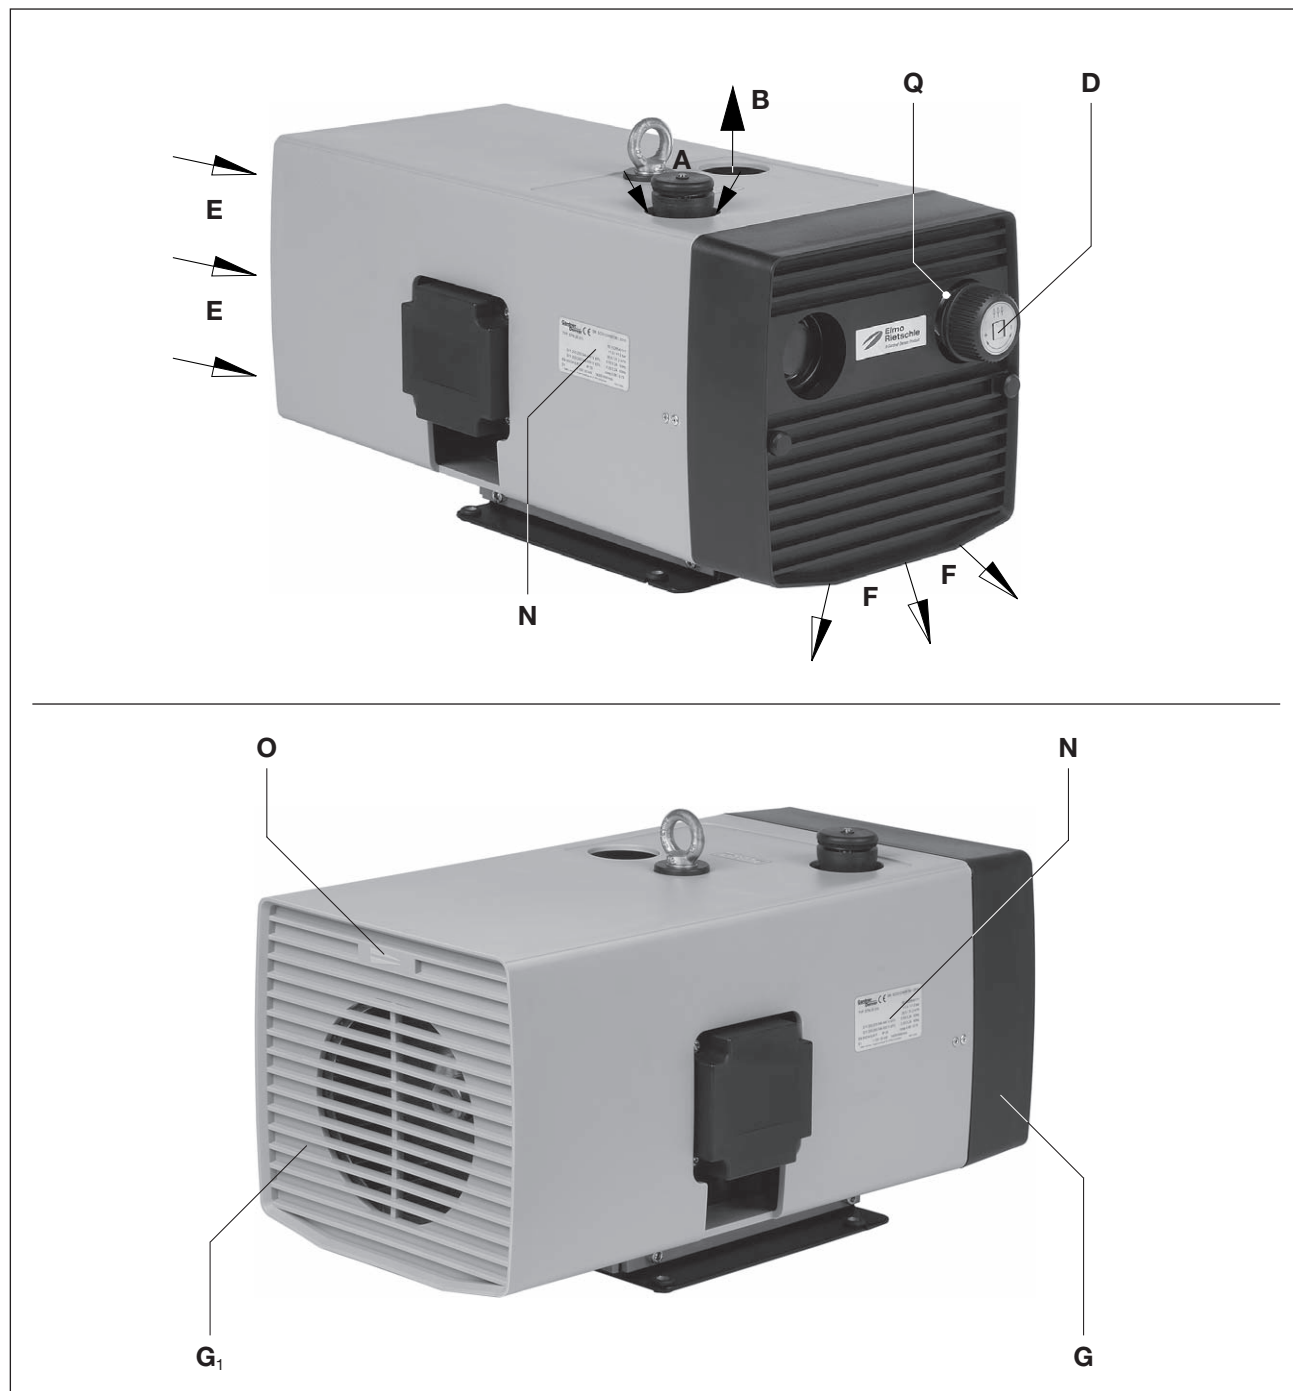

Fig. 2 V-DTN compressor
The pressure regulating valve (Fig. 2/D) is used to set the pressure to the required values with an upper limit.
These dry running rotary vane compressors, V-DTN 16 to V-DTN 41, are suitable for creating excess pressure between 0 and the maximum limit (in bars) given on the data plate (Fig. 2/N). Constant operation is permissible.
To remove the outlet grid (Fig. 2/G) and the inlet grating (Fig. 2/G₁) at least 30 cm of space must be available for maintenance work. You must also ensure that the cooling air inlets (Fig. 2/E) must be at least 10 cm away from the nearest wall (outgoing cooling air must not be sucked in again).
- a) Pressure connection at (Fig. 2/B).
The required pressure ranges can be set with the pressure regulating valve (Fig. 2/D) as shown on the symbol plate affixed to the rotary knob.
- a) The electrical motor data can be found on the data plate (Fig. 2/N) or the motor data plate. The motors comply with DIN EN 60034 and are in protection class IP 55 and insulation class F. The appropriate connection diagram is located in the motor's terminal box (not for the plug connection version). The motor data must be compared with the data of the existing mains network (current type, voltage, network frequency, permitted current value).
- ▷ The drive shaft direction of rotation is shown by the rotation direction arrow (Fig. 2/O).